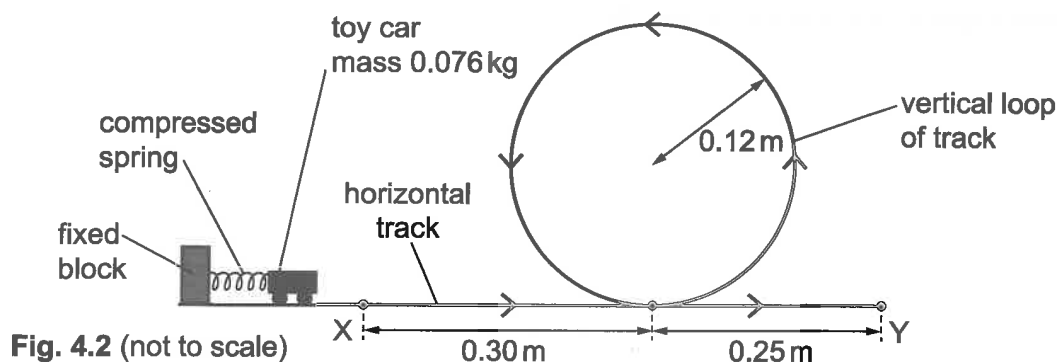

Fig. 4.2 (not to scale)
- (c) The spring in (b) is used to project a toy car along a track from point X to point Y, as illustrated in Fig. 4.2.